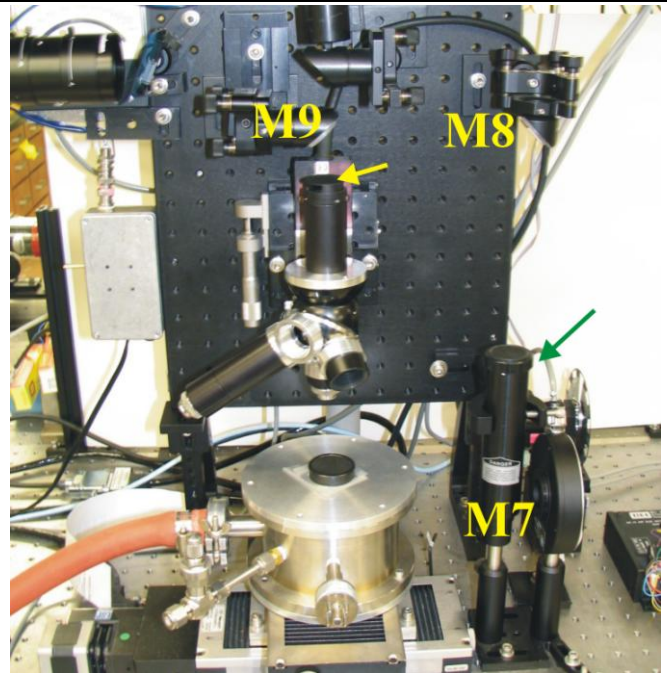

FIGURE 20
19. Lift up the protective beam tube, which covers mirror M7 and remove the dust caps (shown with arrows in FIGURE 20). Set the microscope objective revolver head to a slot containing SM1 tube with an iris. There should be enough clearance between the vacuum chamber and the iris for the CCD profiler.
5. Lift up the protective beam tube, which covers mirror M7 and remove the dust caps (shown with arrows in FIGURE 20). Set the microscope objective revolver head to a slot containing SM1 tube with an iris. There should be enough clearance between the vacuum chamber and the iris for the CCD profiler.